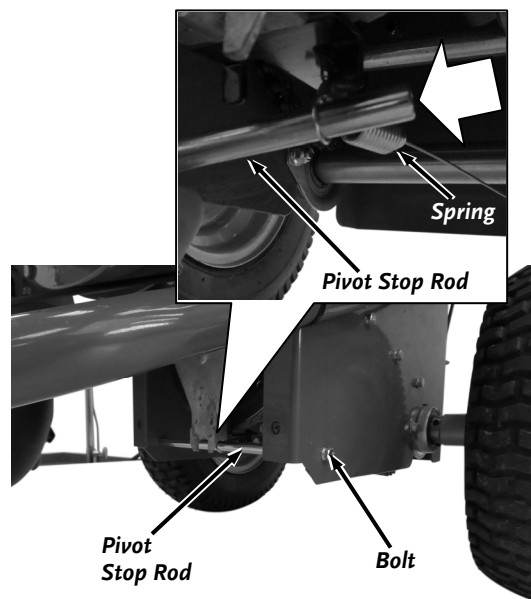
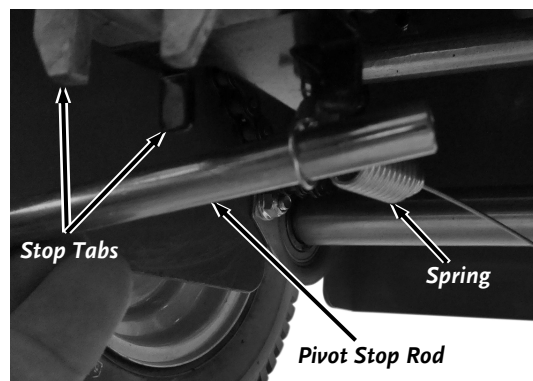

Figure 20
Figure 30
3. Remove the two Bolts that secure the Pivot Stop Rod using a 10mm Wrench and slide the Rod out of the Spring end as you remove the Rod (**Figure 20**).
5. Install the Pivot Stop Rod (**Figure 20**) ensuring that the Rod goes through the Spring at the bottom of the Drive Pulley Assembly and the Rod is between the Tabs (**Figure 30**).